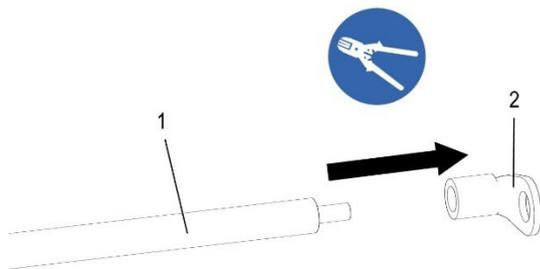

Fig. 134: Crimp equipotential bonding cable with crimping cable lug
- Crimp the equipotential bonding cable (1) and the crimping cable lug (2) together using a crimping tool (see Fig. 134).